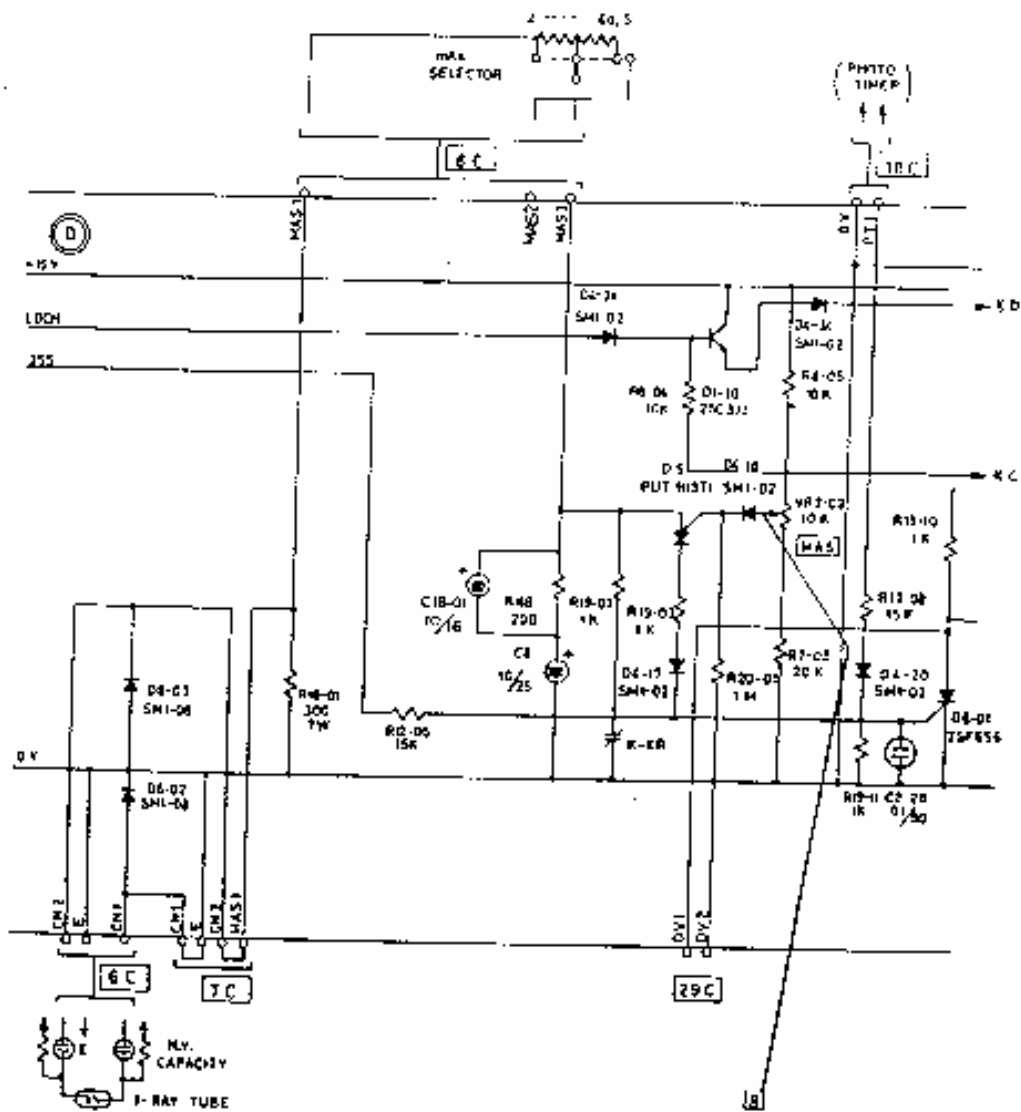

Fig. 3-4-2
- (1) Figure 3-4-2 is the connection diagram of this circuit.